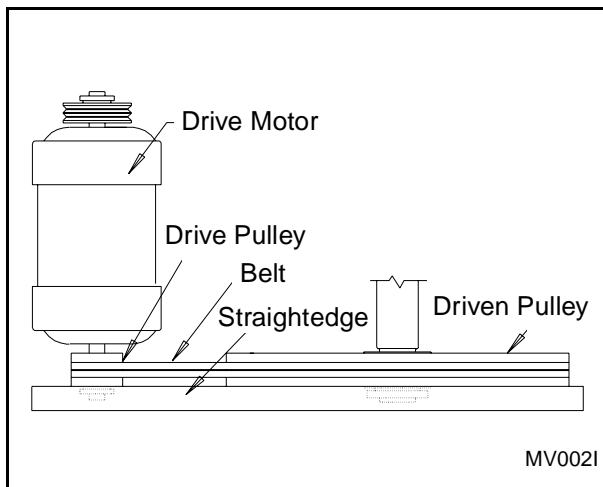

Figure 18
- c. Verify that V-belts are properly aligned by checking pulley alignment. Place a straightedge across both pulley faces. The straightedge should make contact with the pulleys in four places. See Figure 18.